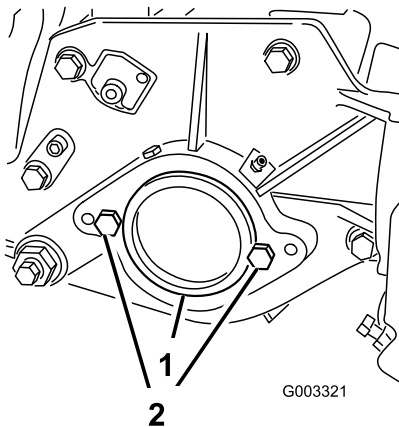

Figure 12
2. On right end of cutting unit, remove the plastic plug from the bearing housing (Figure 12).
3. Remove the 2 cap screws from the right side plate (Figure 12).
2. Cap screw (2)
5. Loosely install the 2 reel motor mounting cap screws to the left side plate of the cutting unit (Figure 12).